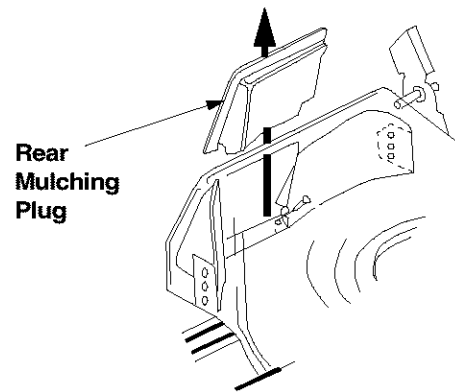

Figure 8
- If your mower is equipped with a mulching plug, and it is in place on the mower, lift the rear discharge door and remove the rear mulching plug from the mower. See Figure 8 .